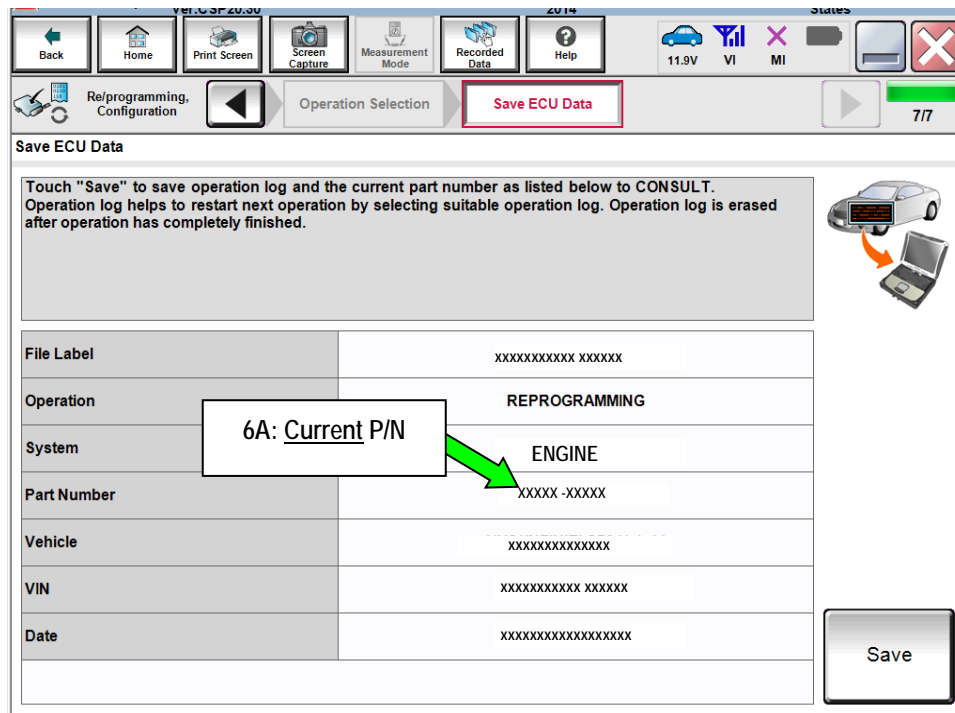

Figure 2
5. Follow the on-screen instructions and navigate C-III plus to the screen shown in Figure 2 on the next page.
6. When you get to the screen shown in Figure 2, confirm ECM reprogramming applies as follows: